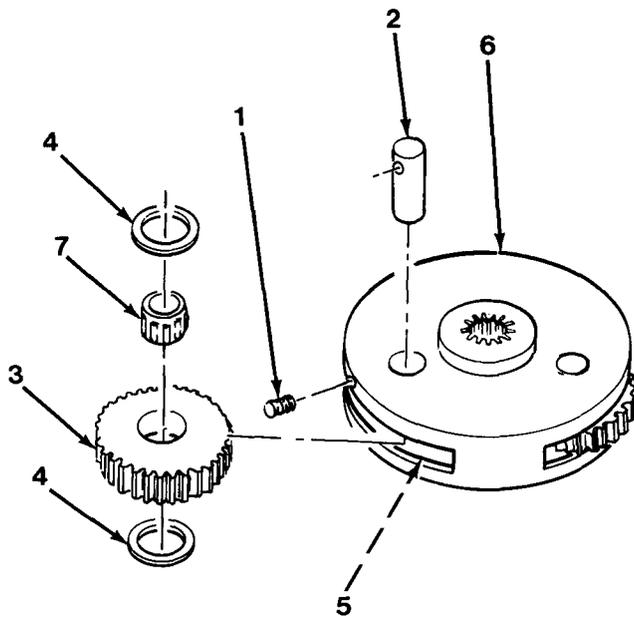

Figure 16-1
1. Drive three rollpins (1) into center of gear shafts (2, Figure 16-1).
2. Drive three gear shafts (2) out enough to remove three rollpins (1).
3. Remove and discard three rollpins (1).
4. Remove three gear shafts (2), three planet gears (3), six thrust bearing races (4) and thrust washer (5) from primary planet carrier (6).
5. Remove roller bearing (7) from each of three planet gears (3).